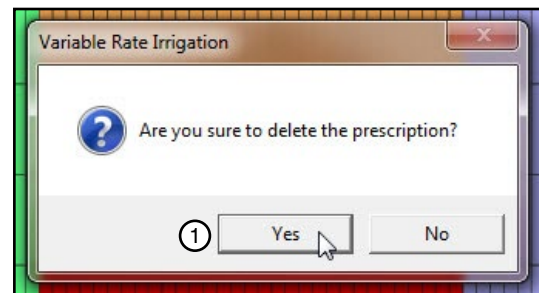

Figure 36-2 1. Yes Button
3. Click **Yes**. See Figure 36-2.